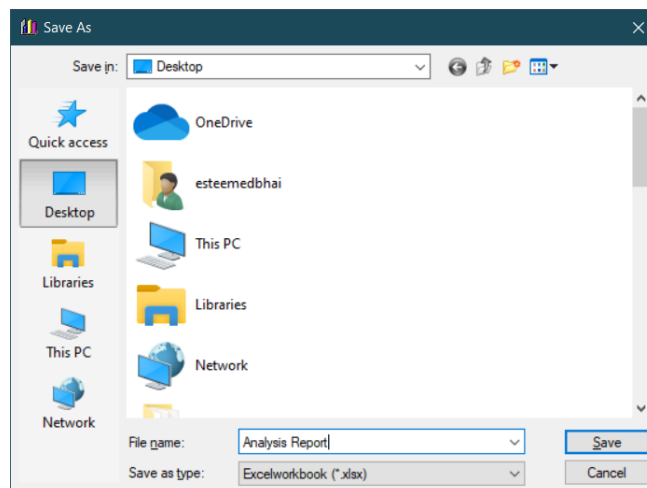

Fig. 14: Saving the result file for sensitivity analysis.
4. When the analysis is over, a file “ Save As” dialog box appears, Fig. 14.